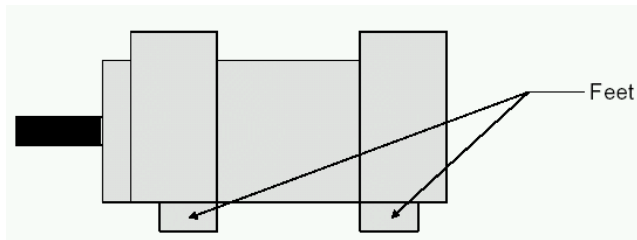

Figure 3 - Foot Mounted Pump
3.7.3 Aligning Foot Mounted Pumps - See Figure 3